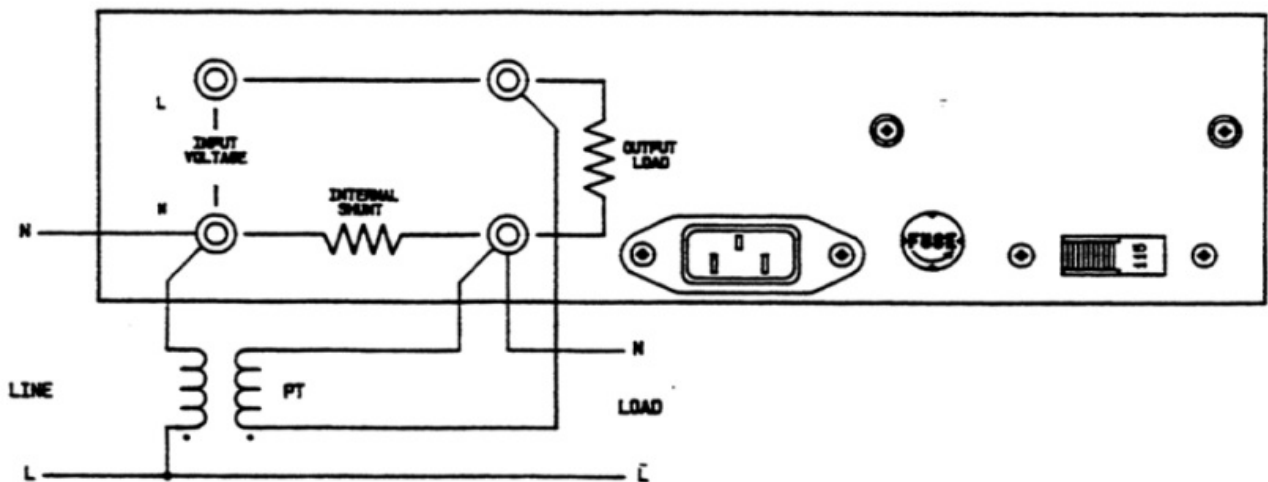

Figure 5-4 | 215 Connections using a PT
- At high frequencies, their phase shift will cause the power measurement to be in error. Figure 5-4 illustrates the method of connecting a PT to a digital power analyzer.